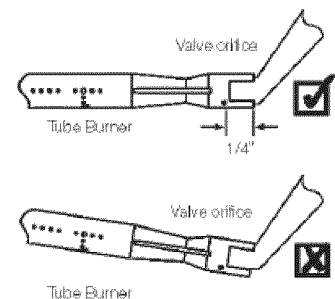

Fig. 11
9. Reinstall the burners, checking to ensure that the gas valve orifice is correctly positioned inside each burner inlet (venturi). (See Fig. 11)